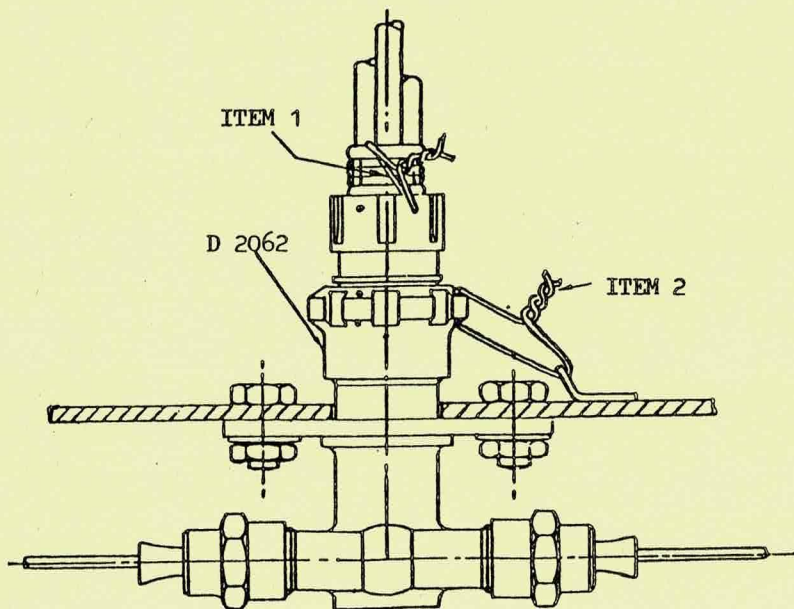

FIG 2
- (2) Ensure D2061 is wirelocked to D3053 (Fig 2 item 1).
- (3) Offer interconnector harness up to tee piece and feel engagement of harness keyway into tee piece key. When engagement is felt push firmly into tee piece key and tighten locknut D2062 (Fig 2).
- (4) Lock, locknut D2062 to tag with wire (Fig 2 Item 2).